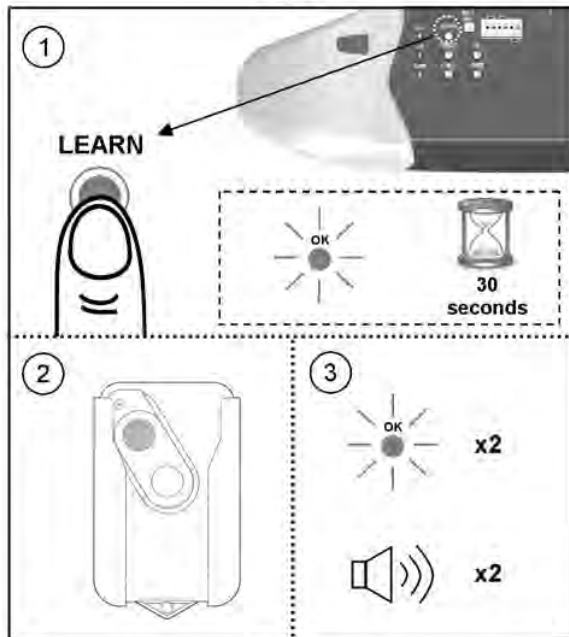

Fig.2
1. Press/release the "LEARN" button once on the rear control panel, "OK" LED will glow and beep. The unit is now ready to accept a transmitter in the next 30 seconds as shown in Fig.2.